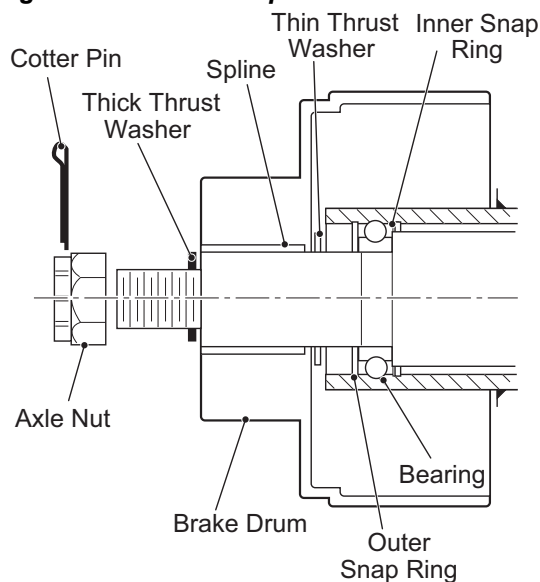

Figure 8 Cut Away of Outer Bearing and Brake Drum
4. Coat the outboard spline of the axle with a commercially available anti-seize compound. Install the brake hub and drum, thrust washer, nut and new cotter pin (Ref. Figure 8).